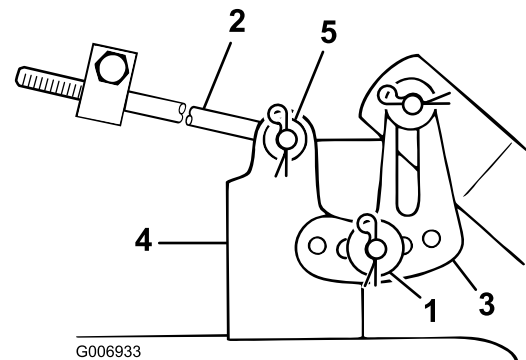

Figure 44
11. Slide the end of the long rod through the hole in the mower mount (Figure 44).
12. Install the thin washer and hairpin cotter to secure the rod in place (Figure 44).
13. Mount the slotted mower leveling bracket onto the pin on the mower mount (Figure 44).
14. Install the thick washer and hairpin cotter to secure the mower (Figure 44).